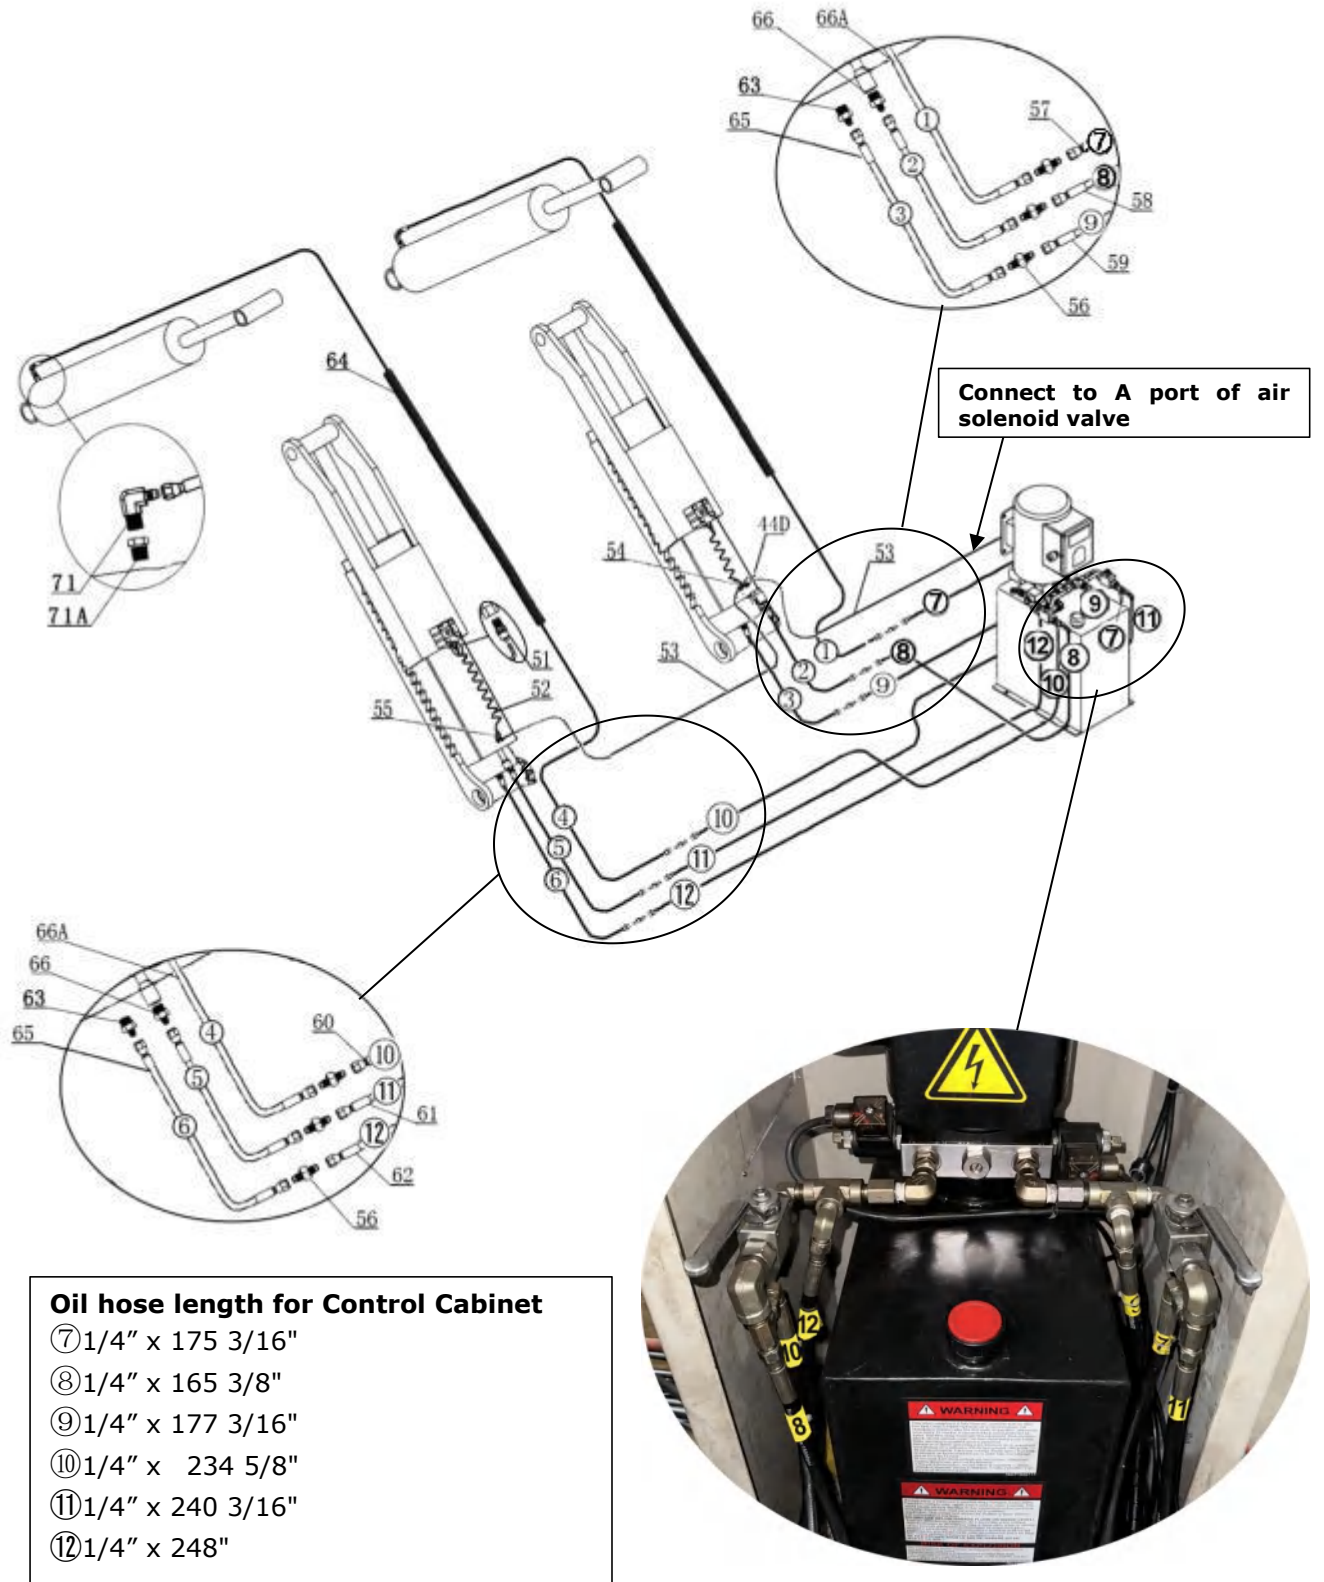

Fig.14
2.1 Connection diagram for control cabinet installed at the left side.see Fig.14